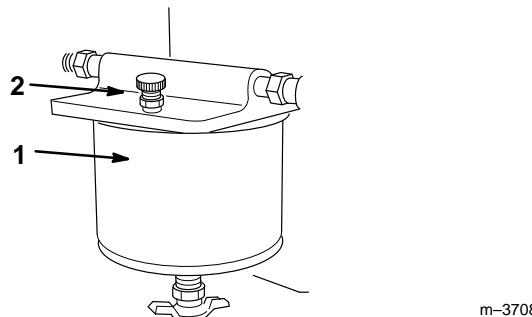

Figure 28
- Open the bleed screw on top of the fuel filter to fill the bowl with fuel (Fig. 28).